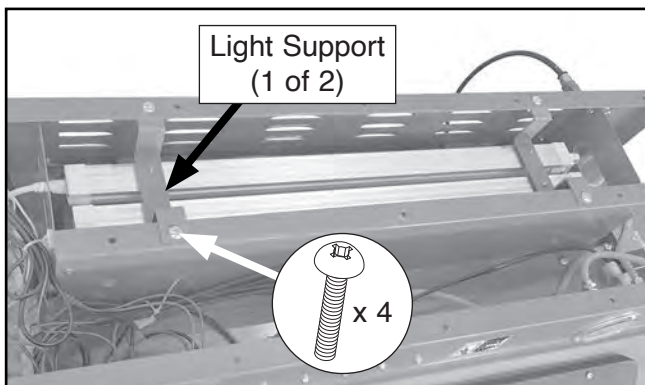

Figure 40. Location of light supports and screws.
3. Remove (4) screws and carefully lift (2) light supports to pull LED lights out of light compartment (see **Figure 40**).